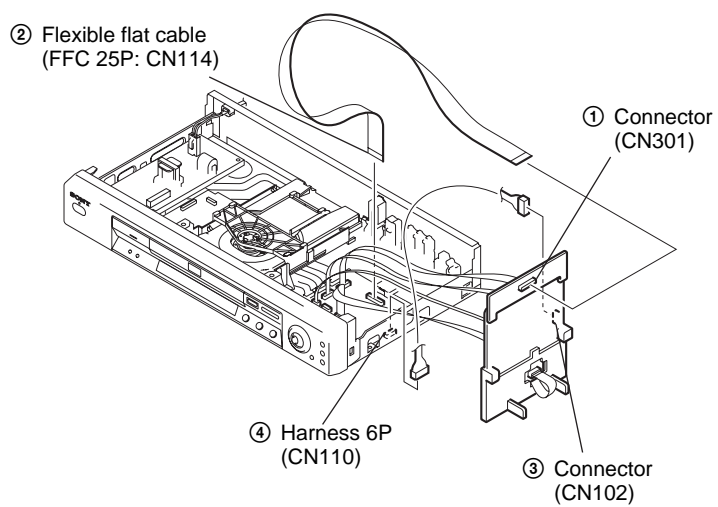

Fig. 5
6) Set the flexible flat cable and harness as shown in Fig. 5.